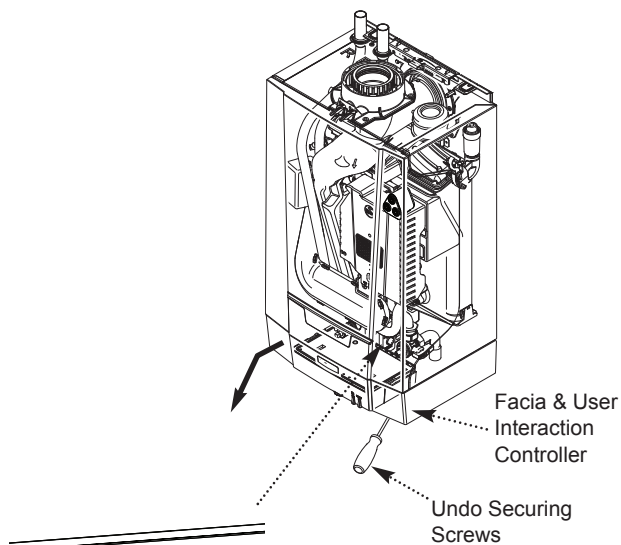

Fig. 23a
3. Disengage the condensate trap securing clip by pulling forwards and hinging upwards (Fig. 23a). Carefully pull out the trap and remove and discard the sealing cap.